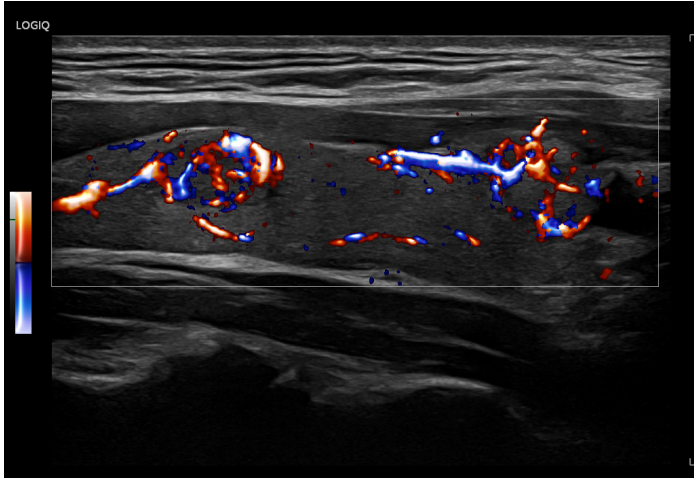

Figure 8. PDI showing vascular patterns within thyroid nodules.
- Evaluation of thyroid nodules to assess vascular patterns (Figure 8)